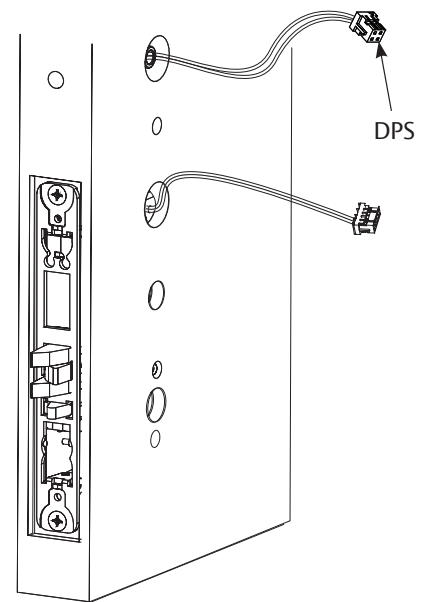

Figure 5-4B
2. Pull wires through hole while inserting lockbody. Do not push wires back into cylinder hole. (Figure 5-4B)